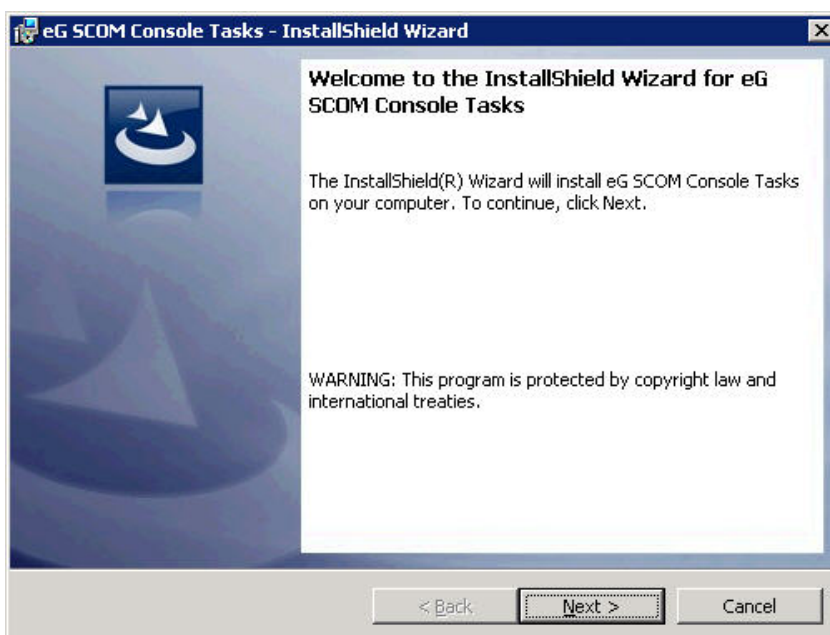
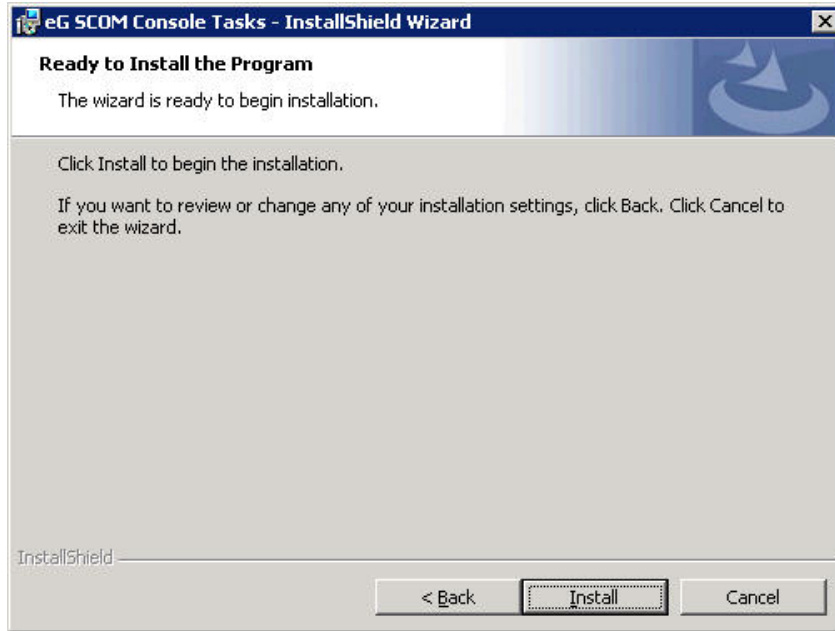

Figure 3.21: Welcome screen of the Console Tasks Application wizard
Figure 3.22: Click 'Install' to install the eG Console Tasks application
5. Figure 3.21 will then appear.
6. Click **Next** on Figure 3.21 to proceed. When Figure 3.22 appears, click **Install** to begin installing the eG Console Tasks application.